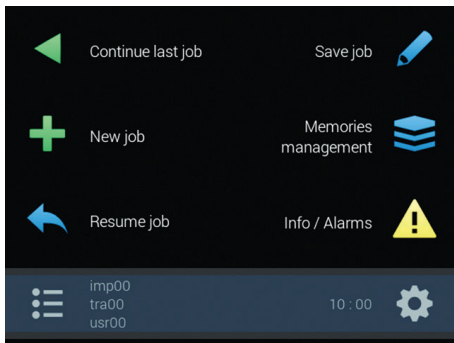

Fig. 319
- 2 Select the job among those in the list (Fig. 319) and press **OK** to confirm the selection.